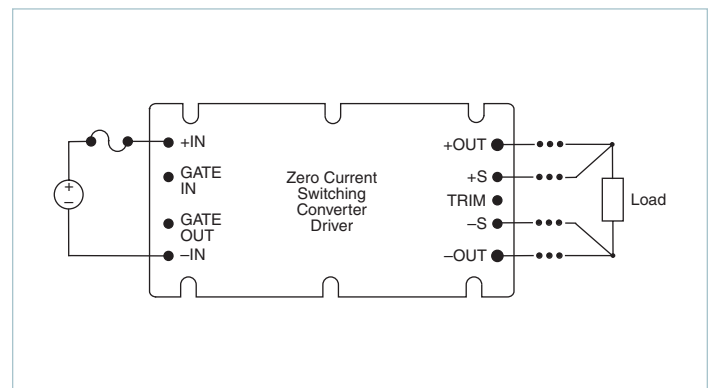

Figure 7.4 — Remote sensing
**Remote Sensing:** (Figure 7.4) Output voltage between +OUT and -OUT must be maintained below 110% of nominal. Do not exceed 0.25V drop in negative return as the current limit setpoint is moved out proportionately. The sense should be closed at the module if remote sensing is not desired. Applies to VI-/MI-200, VI-/MI-J00, ComPAC / MI-ComPAC, FlatPAC and MegaMod / MI-MegaMod Family modules. Excessively long sense leads and / or excessive external capacitance at the load may result in module instability. Please consult Vicor Applications Engineering for compensation methods.